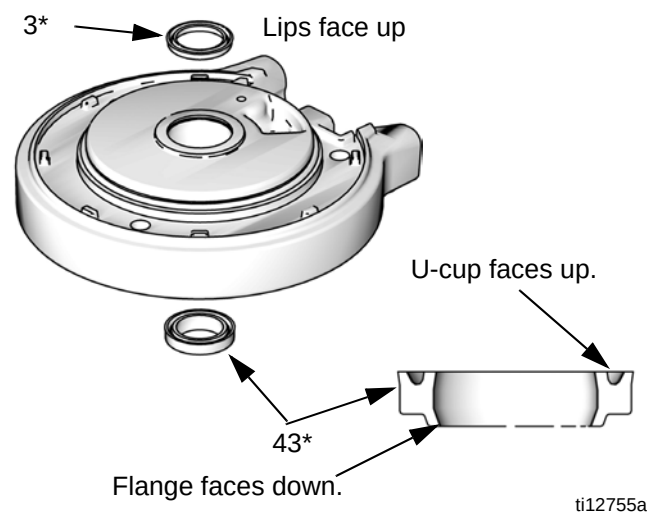

FIG. 20
1. Lubricate and install the o-ring (209) on the top cover (213).
2. Install the upper bumper (228) on the top cover.
3. Lubricate the inside of the cylinder (211). Lower the cylinder onto the top cover (213).
4. Lubricate and install the o-ring (208) around the piston (205).
5. Slide the piston assembly down onto the cylinder (211). Be sure the o-ring (208) stays in place.
6. Install the shield (212) around the cylinder (211) and in the groove on the top cover (213).
7. Lubricate and install the new u-cup seal in the bottom of the bearing (202) in the bottom cover (201). The u-cup must face up and the flange face down. See FIG. 20.